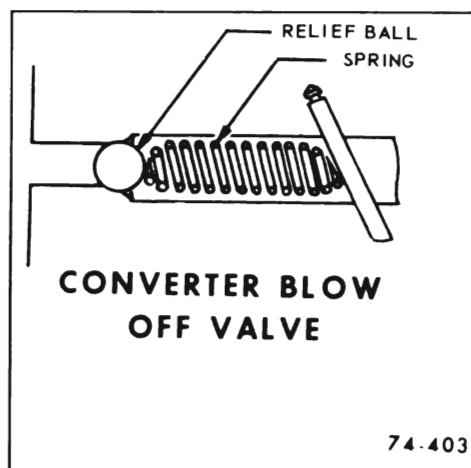

Figure 74-24 - Converter Blow-Off Valve
m. Converter Blow-Off Valve (See Figure 74-24)